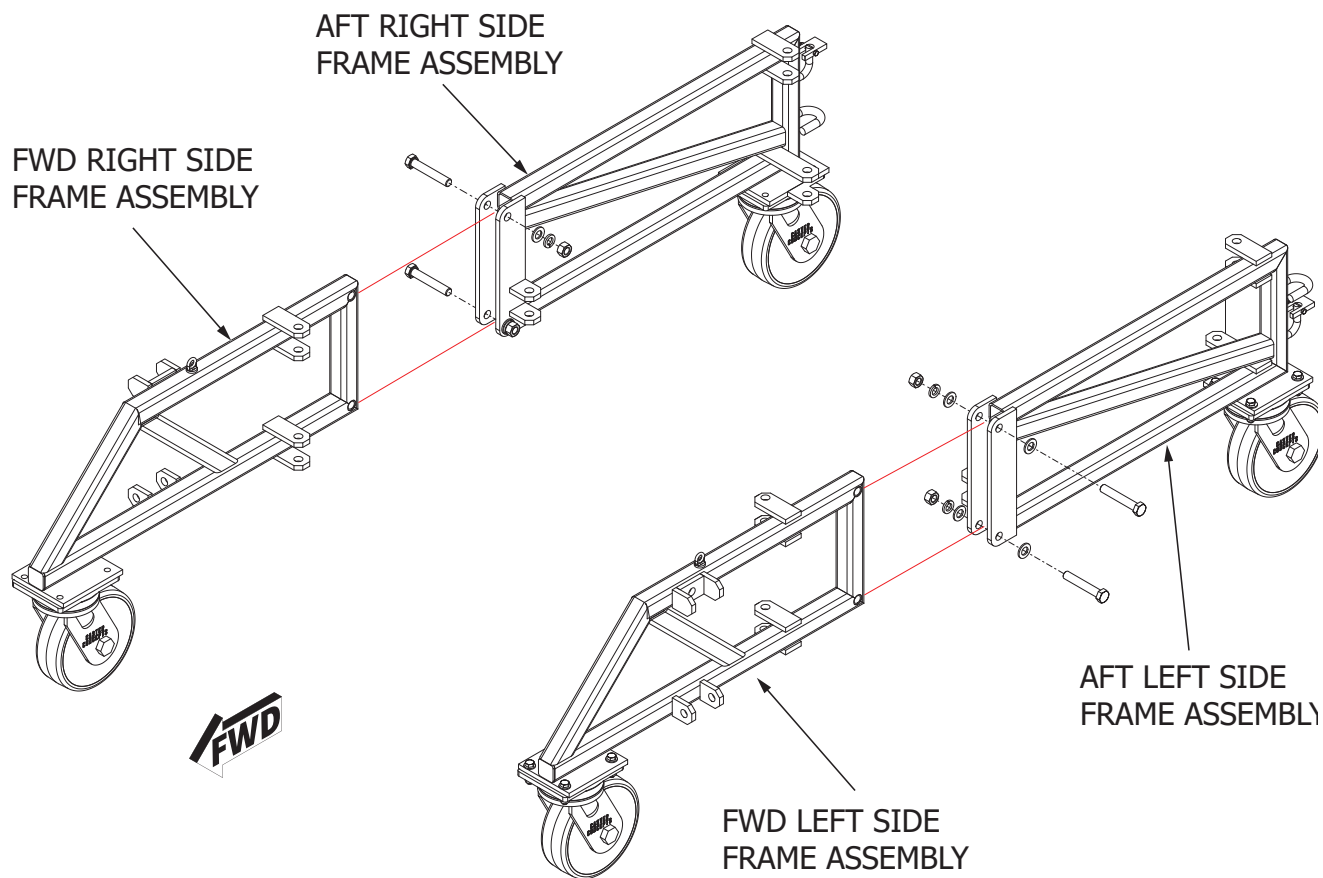

Figure 5.1-1 Left and Right Frame Halves.
- 2) Assemble the left and right frame halve pieces (FWD and AFT pieces) together with the hardware provided. Ensure casters are parallel to frame, and swivel locks and brakes are set. See Figure 5.1-1.